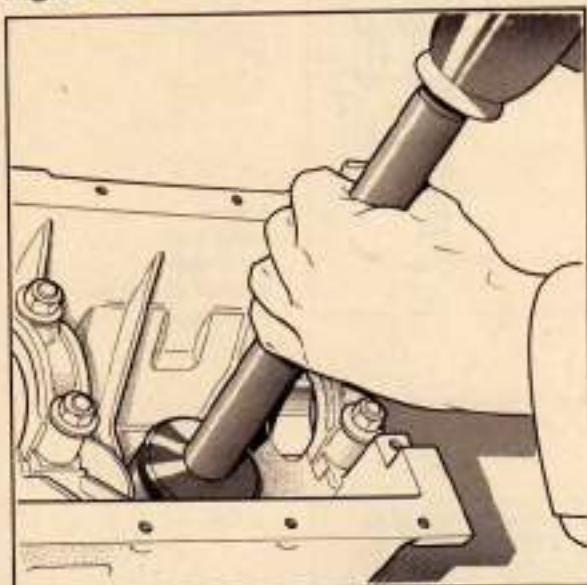

Figure 24 Removing cylinder liners
- 1 Extract the four liners from the cylinder block using a tool similar to that shown in **Figure 24**.